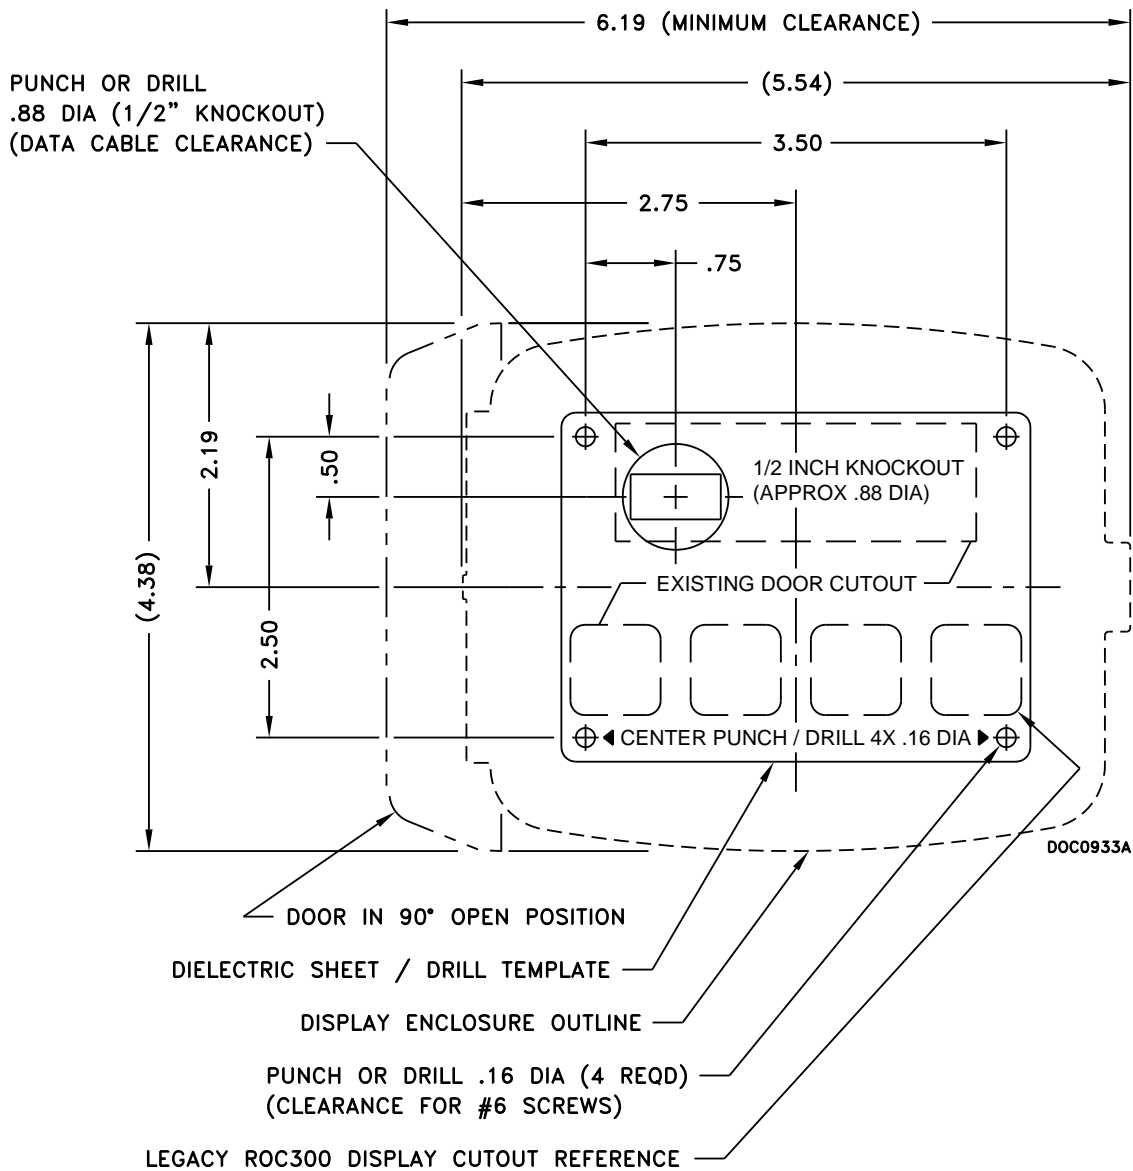

Figure A-1. Dimensions of Touchpad
To determine the best location of your Touchpad, review *Figure A-1* to establish the appropriate location and clearances.
- Use the dielectric plastic template included with the Touchpad to determine what holes you may need to drill. Place the self-stick template on the **front** side of the cover or panel (the side that faces those using the Touchpad) and position the template so that the hole for the data cable is in the **upper** left corner of the template (as shown in *Figure A-1*).